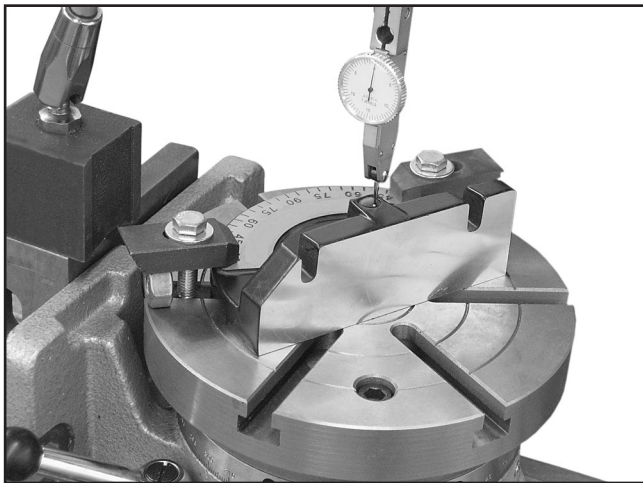

Figure 10. Aligning the workpiece using a test indicator.
1. Position a test indicator mounted on a magnetic base next to the rotary table, as shown in **Figure 10**.